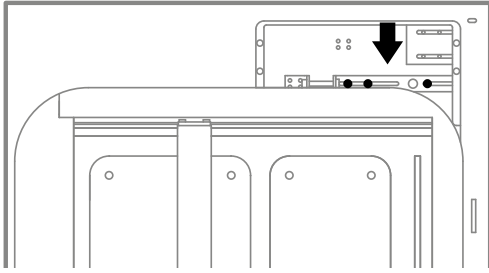

Fig. 12.64 Loose the three screws of the tighten mechanism.
9. To tighten the cord, use a 7 mm wrench and loosen the three screws marked in figure 12.64.
11. Using a 7 mm wrench, tighten back the three screws marked in figure 12.64.